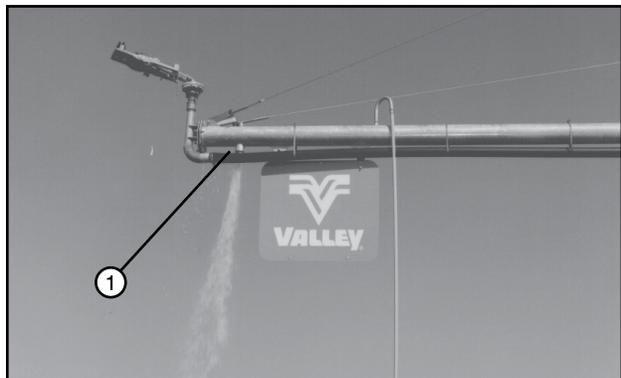

Figure 104-3 1. Overhang Drain
5. Remove plugs from the overhang drains. Clean sand and foreign particles from these drains. Turn the rubber drain seal over when reinstalling. See Figure 104-3.